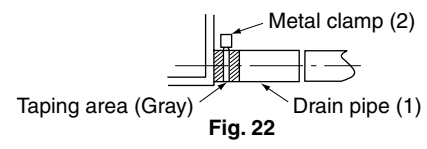

Fig. 22
- Be sure to use the drain pipe (1) and metal clamp (2). Also, insert the drain pipe completely into the drain socket, and securely attach the metal clamp bracket inside the gray tape area on the inserted tip of the drain pipe. (Refer to Fig. 22) Screw the screws on the metal clamp bracket until there is 5/32 in. left. (Pay attention to the direction of the attachment to prevent the metal clamp bracket from coming into contact with the suction grille.) (Refer to Fig. 23)